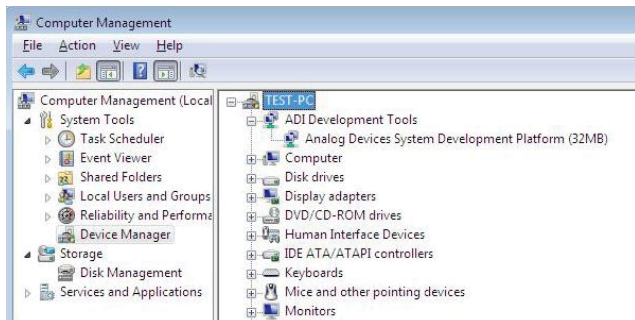

Figure 11. Device Manager, Checking the Board Connected to the PC Correctly
- c) The **Computer Management** box appears. Click **Device Manager** from the list of **System Tools** (See Figure 11).